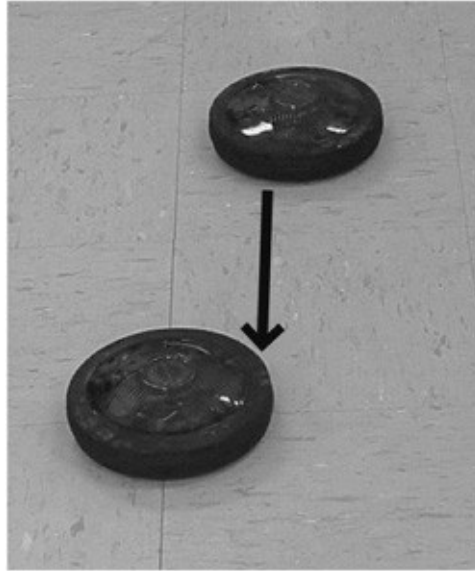

Figure 51-1 *A puck (moving toward you) about to hit a stationary puck.*
3. Push the second puck (the shooter) toward the stationary puck. Aim so the collision is at a glancing angle, rather than head on, hitting the stationary puck off-center as shown in Figure 51-1.